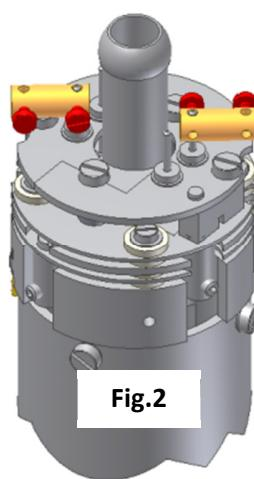

Fig.2
3. Hold the barrel connectors highlighted in orange firmly with your pliers and slacken the screws highlighted in red until the barrel connector can be removed from the filament plate and the connecting lead, see Fig.2.
4. Loosen the three M2 x3 set screws highlighted in red that secure the three insulated wires that run from the analyser flange assembly to the source, repeller and extractor plates and slightly bend the wires out of the way, see Fig.2.